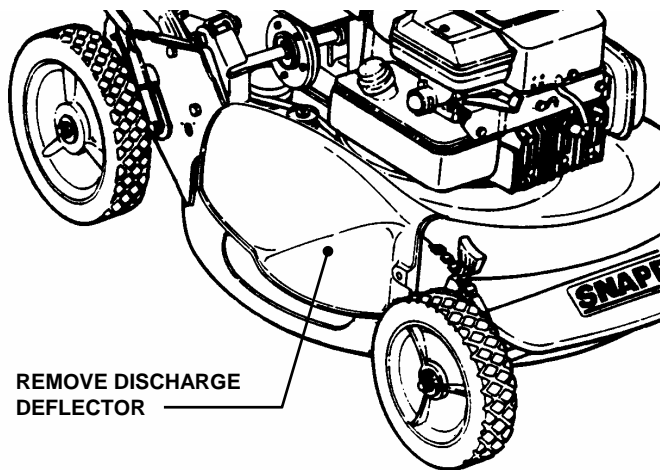
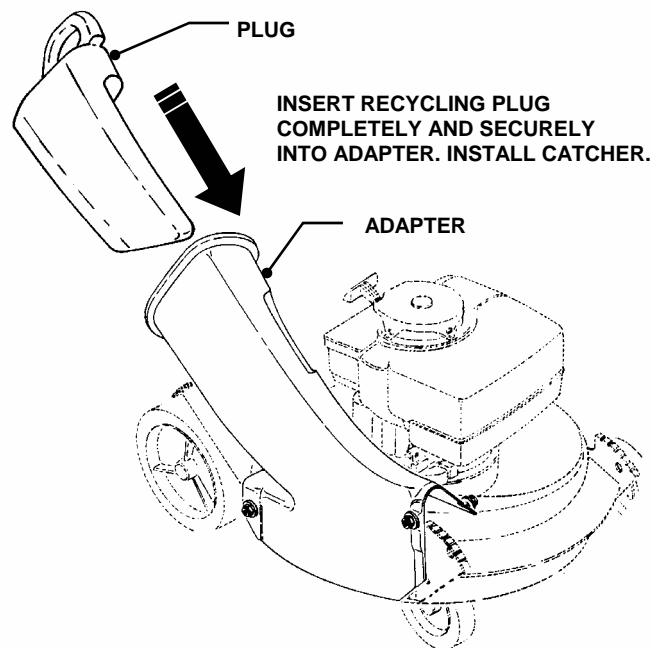
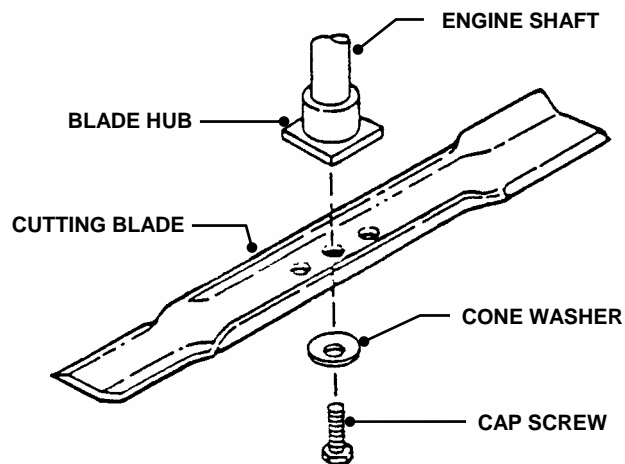

FIGURE 1
FIGURE 6
FIGURE 7
This kit includes a grass catcher bag, and an adapter for installing in place of the side discharge deflector or mulching cover on 19" & 21" Walk Behind Mowers. Some kits may also include a side discharge deflector (see Figure 1), recycling plug (see Figure 6) or a new blade (see Figure 7)
STEP 1: Remove the side discharge deflector or mulching cover by removing the retaining hardware. See Figure 1. Save the deflector or cover for future use. Save hardware for securing the adapter.
STEP 5: Once grass bag and adapter has been installed, recycling may be desired. Remove grass bag and insert recycling plug completely and securely into adapter. See Figure 6.
STEP 6: To change blade, tilt mower up on its rear wheels for access to the blade cap screw. Do not tilt mower with spark plug or carburetor down. Remove retaining cap screw, cone washer and standard cutting blade from blade hub. Save standard blade for future reinstallation. See Figure 7.